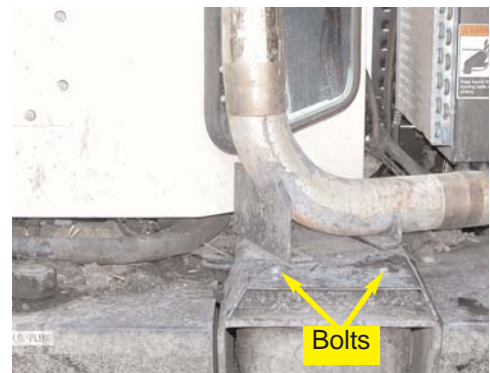

Figure 2a. Above right axle next to muffler.
- a. Locate the two bolts above the axle, on the right side, next to the muffler. (Figure 2a.)